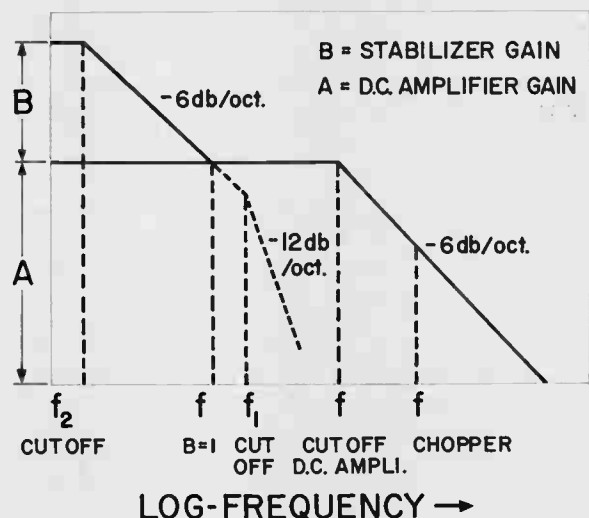

Figure 4. Frequency response asymptotes for the chopper stabilized amplifier.
- Requirements for proper shaping of the Amplifier gain and phase characteristics in order to fulfill the stability criteria as indicated in Figure 4.
The drift of the operational amplifier can be reduced by increasing the stabilizer gain, as it is shown in equ. (3). In connection with boosting the stabilizer gain a word of warning is necessary. A gain increase of the stabilizer may adversely effect the stability of the operational amplifier (this is self-explanatory in Figure 4) especially if $f_{\text{cut-off}}$ of the DC amplifier is low and the time-constants $R_1 C_1$ and $R_2 C_2$ have significant values. On the other hand the stabilizer gain boost does not necessarily mean an improvement of performance of operational amplifier itself. It should be realized that drift is only a part of the total error and when the gain of the stabilizer increases, the other